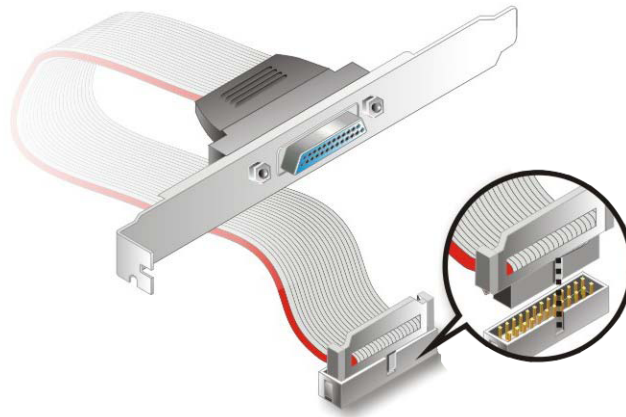

Figure 5-15: LPT Cable Connection
Step 2: Align the connectors. Correctly align pin 1 on the cable connector with pin 1 on the 3307680 LPT box-header connector. See **Figure 5-15**.
Step 3: Insert the cable connectors Once the cable connector is properly aligned with the 26-pin box-header connector on the 3307680, connect the cable connector to the onboard connector. See **Figure 5-15**.